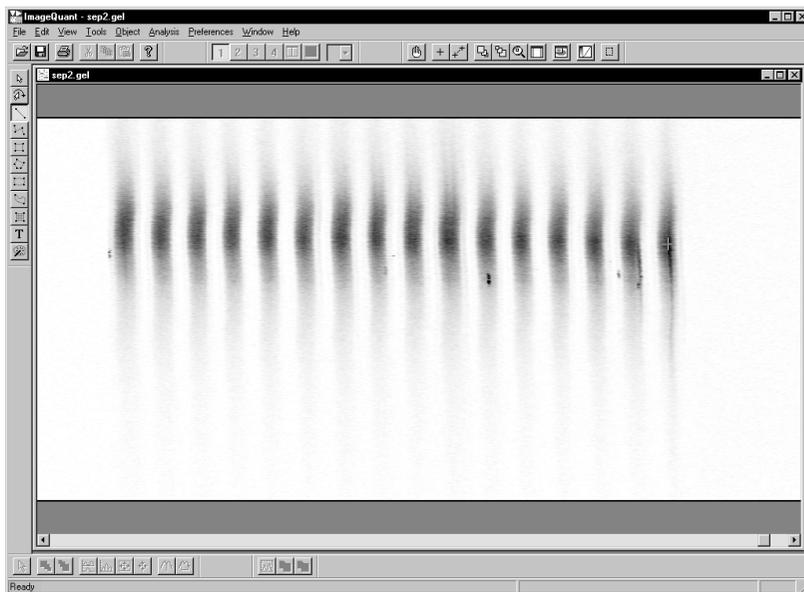

Figure 4-16. A converted image file displayed in ImageQuant.
4. Choose Gray/Color Adjust from the View menu to enhance the appearance of the capillaries within the image file. Depending on the Gray/Color Adjust settings you used, the image should look similar to the image in figure 4-16.